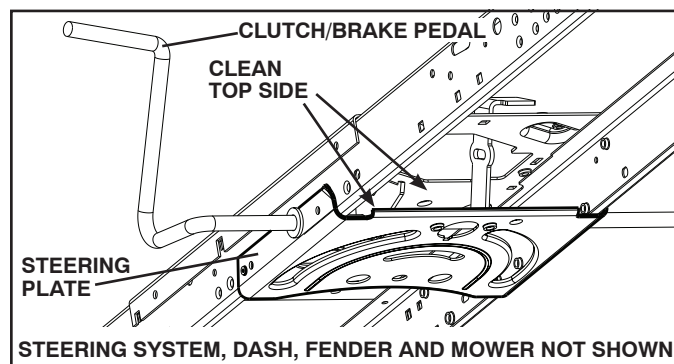

Fig. 20
- Clean debris from steering plate. Debris can restrict clutch/brake pedal movement, causing belt slip and loss of drive. See Fig. 20.